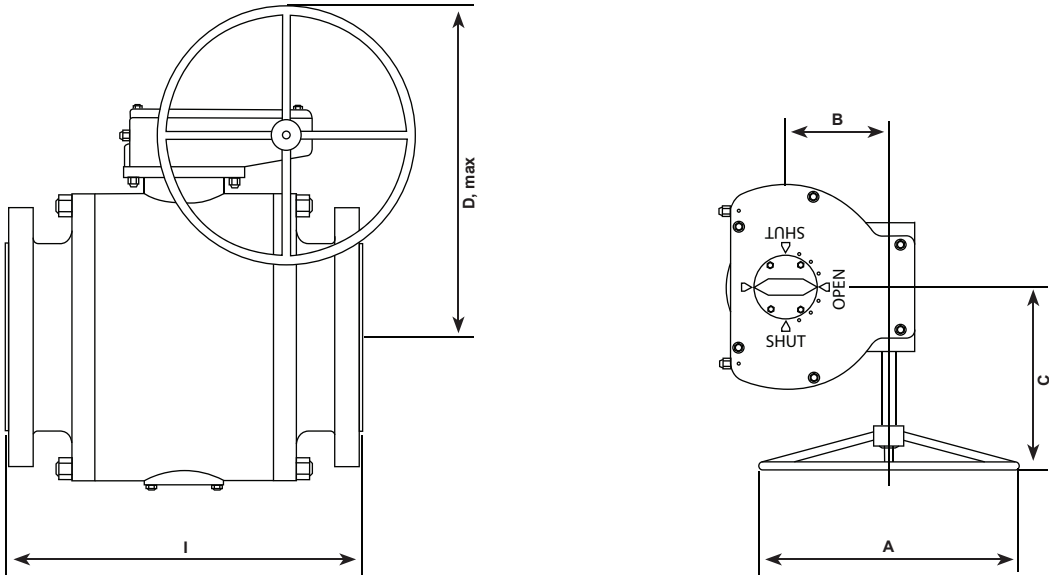

**Figure 5.** Fire-proof Design
- **Fire-proof Design**—Every possible leaking part between the ball and body, stem and body, and middle flanges is designed to have metal-to-metal sealing that conforms to the fire-proof requirements of API 6FA or API 607. Graphite is used for packing and gaskets to provide sealing in case of severe fire conditions. See Figure 5.